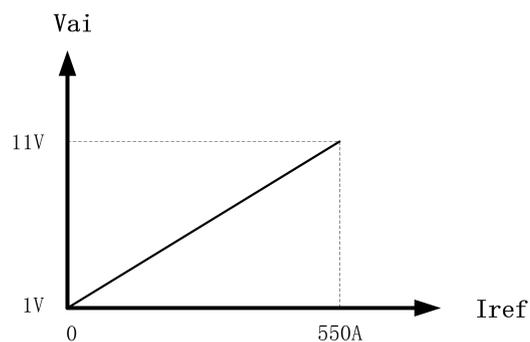

Fig. 4-17 Proportional diagram: preset welding current V.S. voltage of analog signal from robot to welding machine
3. The proportional diagram between the preset welding current and analog output value from the robot to the welding machine is shown in Fig. 4-17.